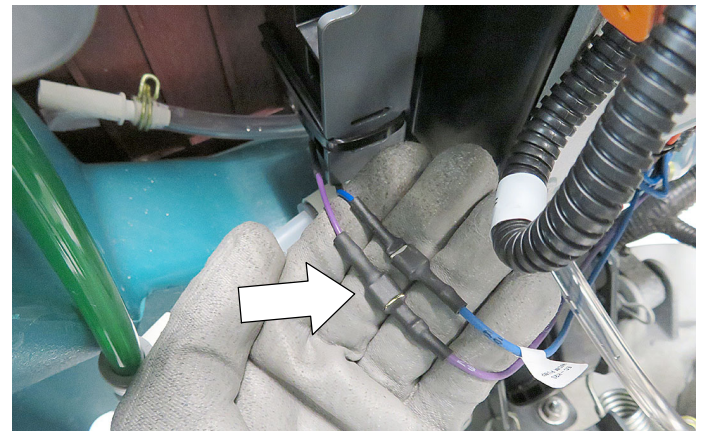

Fig. 9
- 8. Connect the purple & blue wires located in step 3 to the water conditioning module as shown (Figure 9).